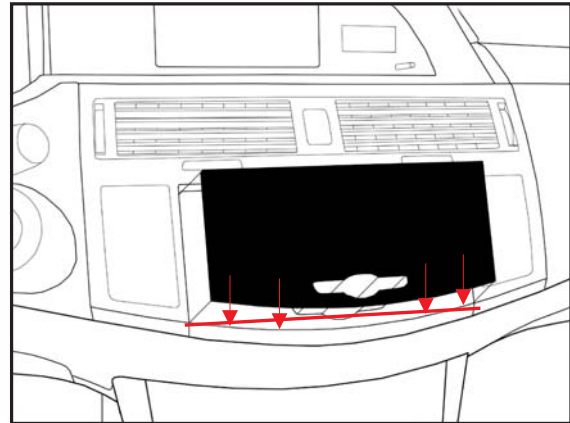

Fig. F1
- ⚠ A. Align part uniformly to bottom edge of factory radio door allowing 1.0 ±2.0mm gap on the top edge allow free door function in opening and closing. (Fig. F1).